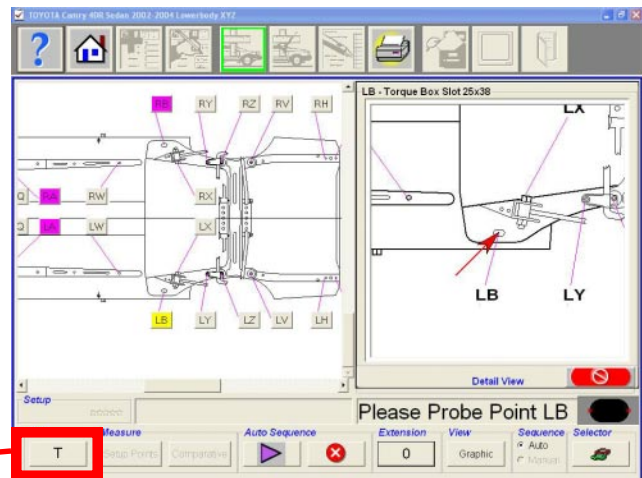
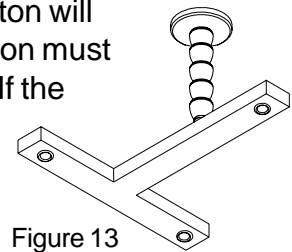

Figure 12
Figure 13
Select the desired reference frame type with button highlighted in Figure 12.
**NOTE:** Before proceeding vehicle measurement, make sure that the correct reference frame to be used has been identified in the measure screen. The icon button will toggle between the two choices (T and X). See Figure 12. Special attention must be made to prevent moving the frame once measurements have begun. If the frame is disturbed, *all readings* must be repeated. Figure 13
3. The screen will be split into two zoom areas of the first point to measure. See Figure 12.